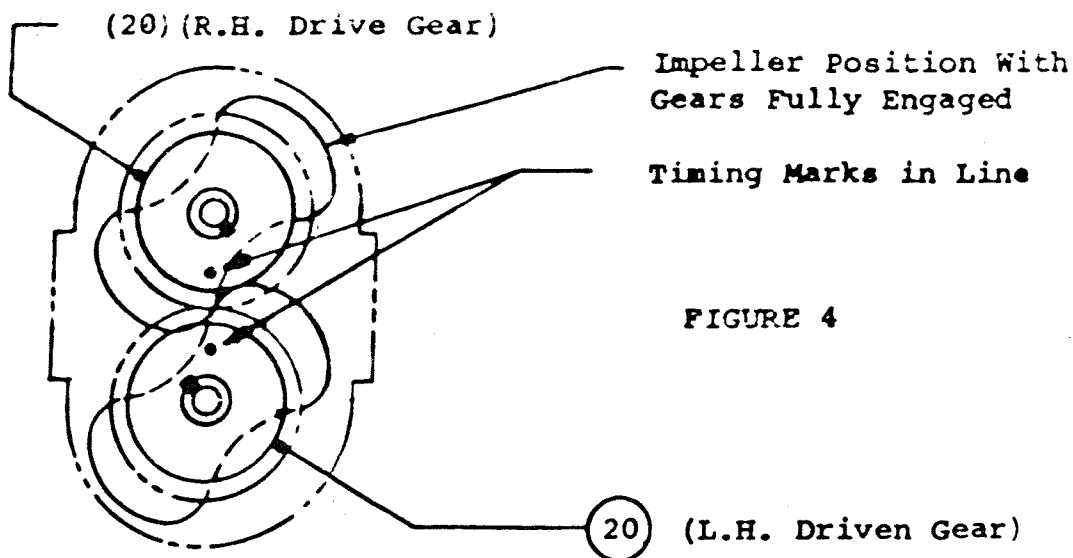

FIGURE 4
4.8.3 Assemble shaft spacer, arbor shim with .060" standard shim pack and key on driven shaft. The gear key is to fit tightly in the keyway. The arbor shim pack is to be assembled with shim stock that is stacked in the largest increments of thickness to reduce compression in the stack up. Position impellers and keyways as in Figure 4. Mount left hand gear on driven shaft with gear installation tool C-402-373-1.
4.8.4 Align the left hand driven gear on the shaft so that the center punch marks (timing marks) engage in line with the tooth space similarly marked on the drive gear, Figure 4. Spray screw threads and tapped hole with Loctite solvent cleaner and apply Loctite #271 (Stud Lock) to bolt threads. Torque bolt to 24 ft. lbs.